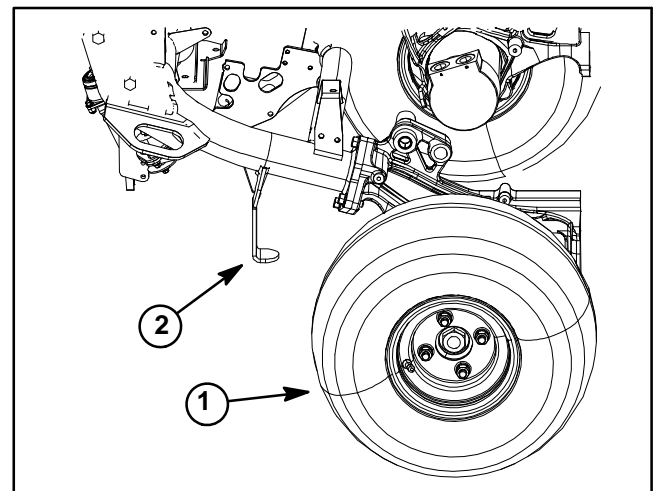

Figure 2
- B. The right side jacking point is the frame bracket behind the RH front wheel (Fig. 2).